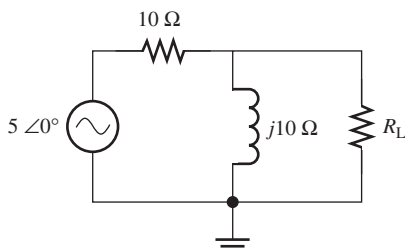

FIGURE P6.45 Circuit for Problem 6.45.
6.45 (A) Find the Thévenin and Norton equivalent circuits for the circuit shown in Figure P6.45, as seen by the load resistor, R_L .
- 6.75** (A) Replace the sinusoidal voltage source to the sinusoidal current that is $i_S(t) = 5 \cos(100t)$ in Figure P6.45, use PSpice to plot the Norton equivalent current flows through R_L .